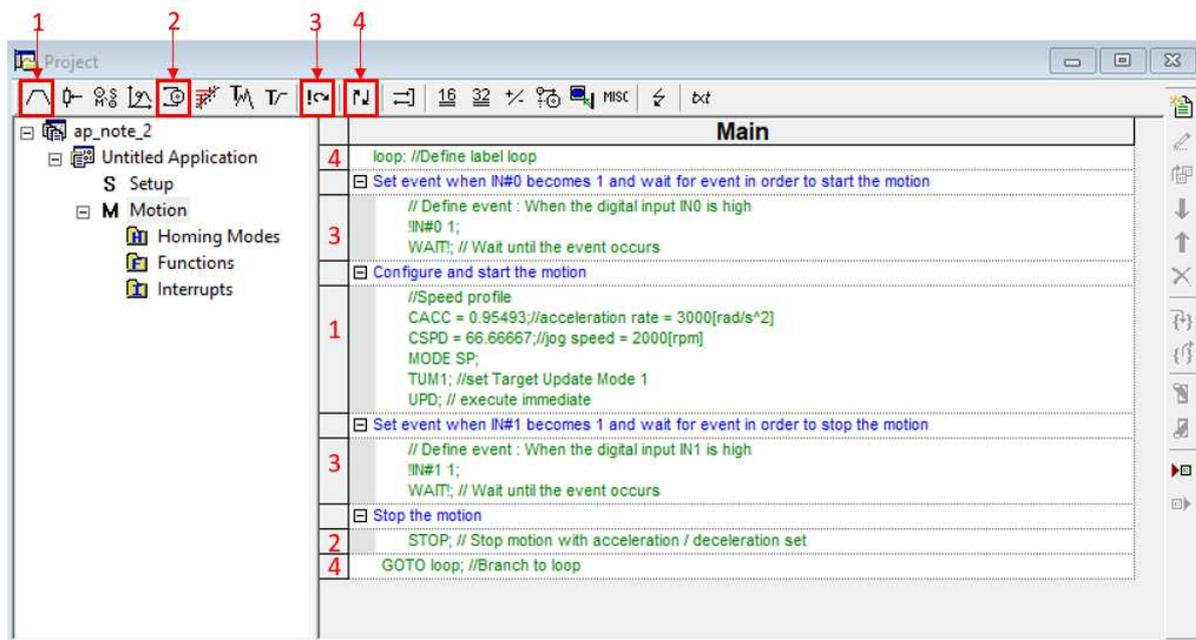

Figure 2. ESM implementation
- The “Events” dialogue allows defining a programmable condition and can be opened by clicking on the button marked with 3 in Figure 2.